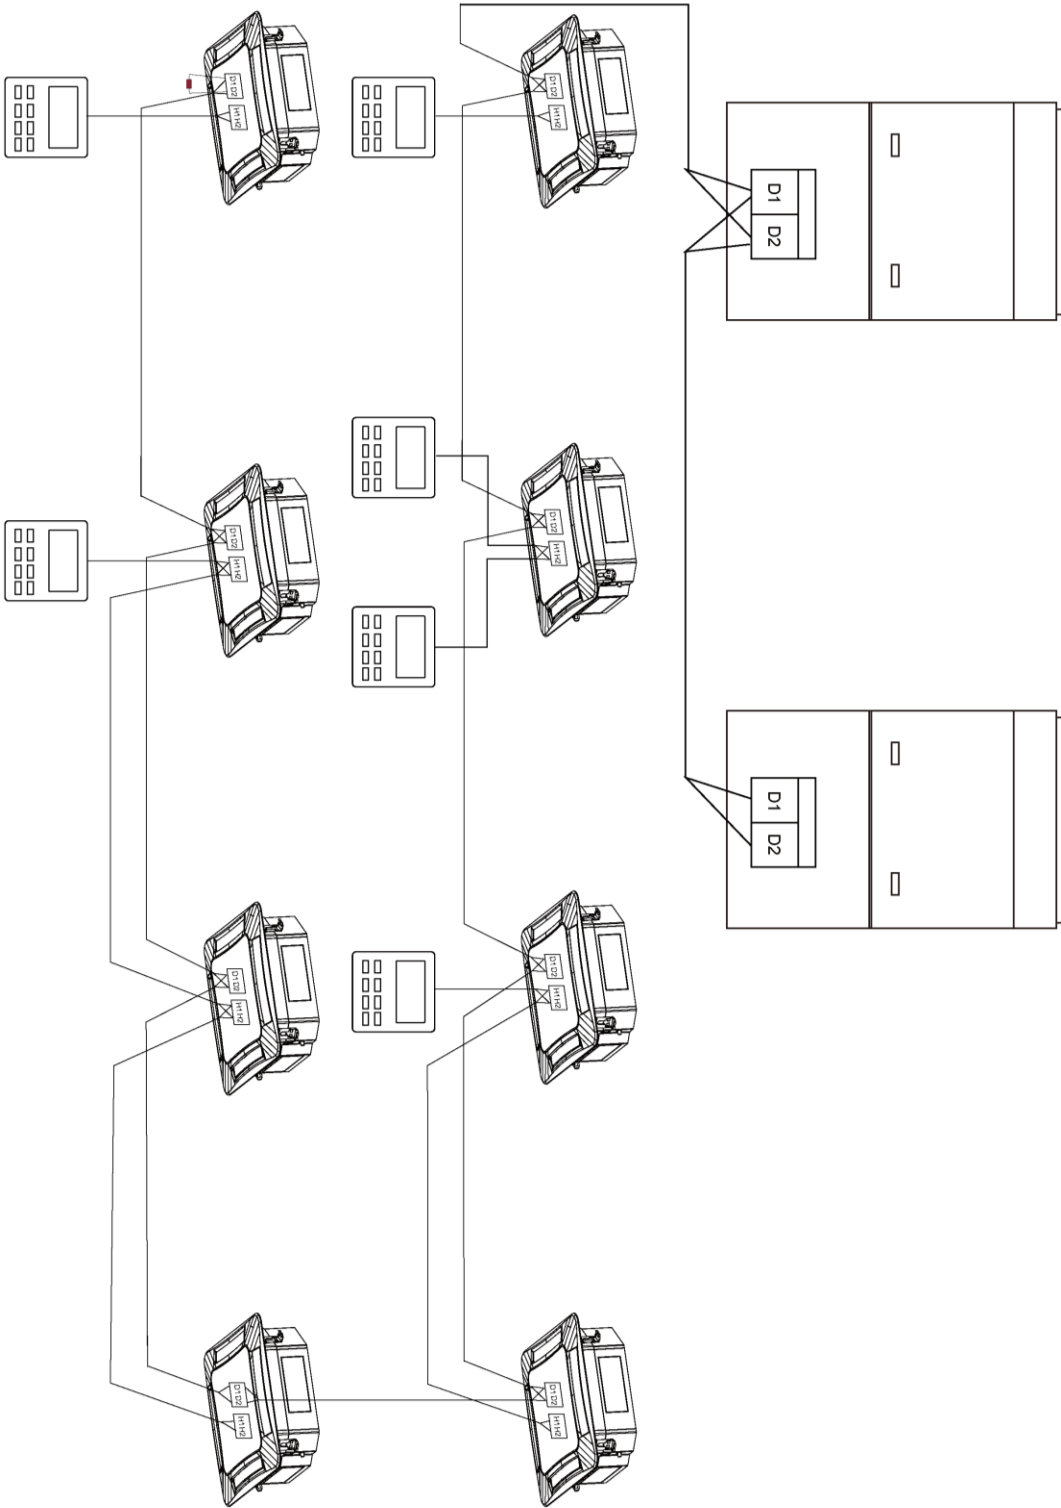

Fig. 5.5.1
- (1) Communication wire of indoor unit and outdoor unit (or indoor unit) is connected to D1, D2.
- (2) Wired controller is connected to H1, H2.
- (3) One indoor unit can connect two wired controllers that must be set as master one and slave one.
- (4) One wired controller can control 16 indoor unitS in maximum at the same time (as shown in fig.5.5.1).